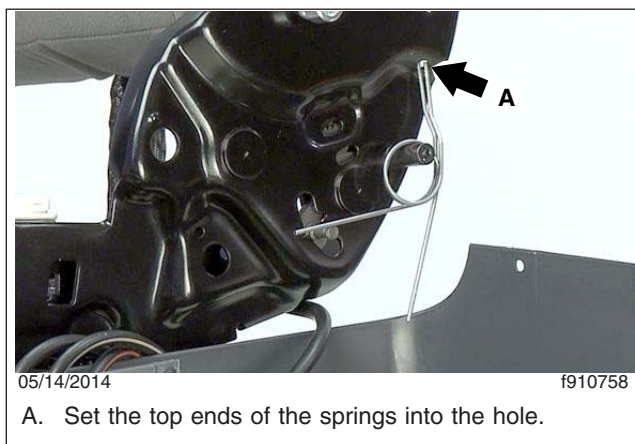

Fig. 8, Recline Handle and Mechanism Springs
3. Hang the springs from the stud, with the top ends set into the hole in the seat frame, as shown in **Fig. 8**.